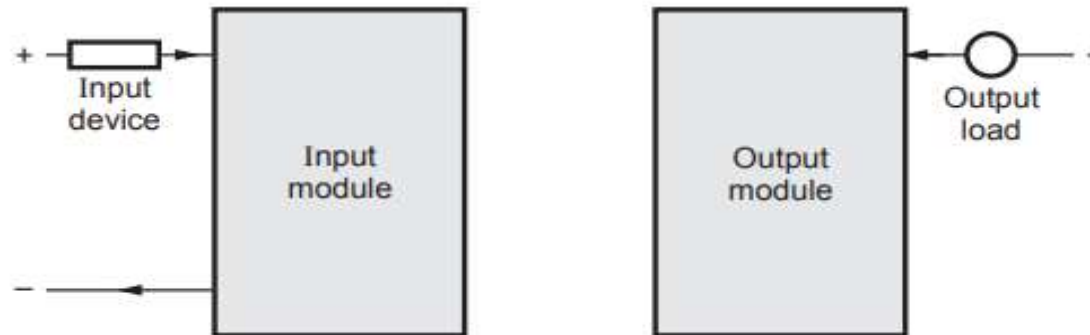

Fig. 4.11.3 Current sinking
- Fig. 4.11.3 shows input and output module with current sinking.